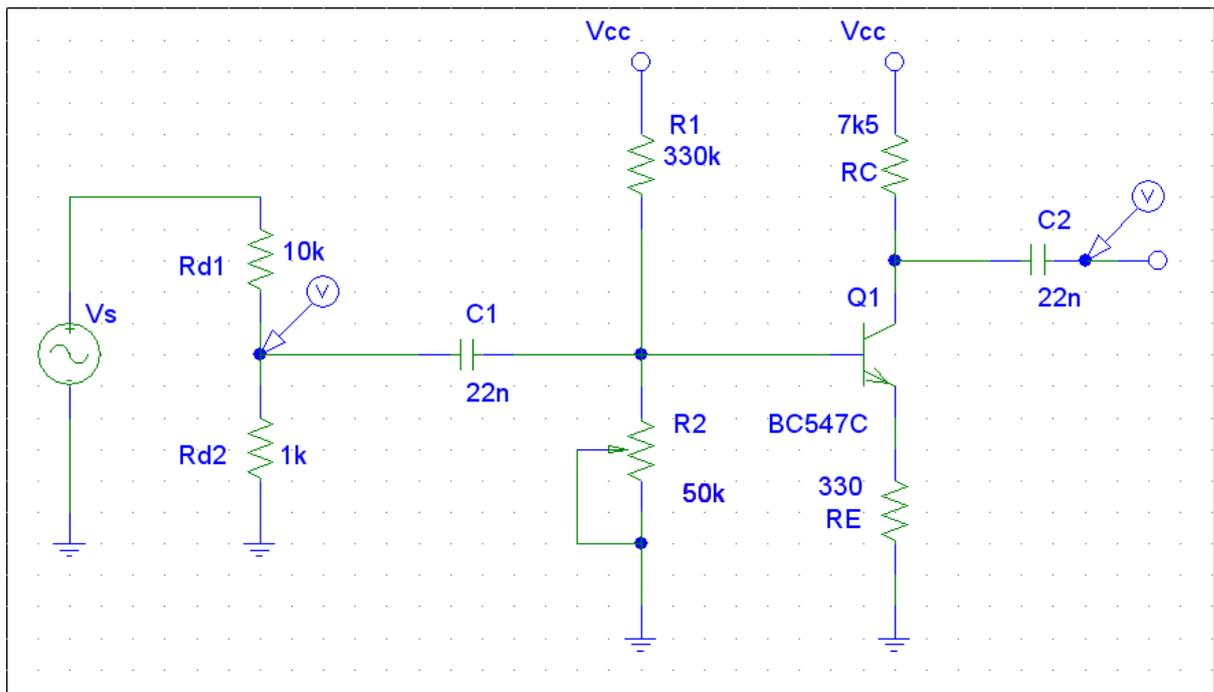

Fig. 3 BJT common-emitter amplifier with positive feedback.
1. Solder circuit illustrated in fig. 3.
6. Set the oscilloscope window to observe the input and output voltage V_{IN} and V_{OUT} . Set the cursors to calculate the amplification A_v of the circuit from fig. 3.